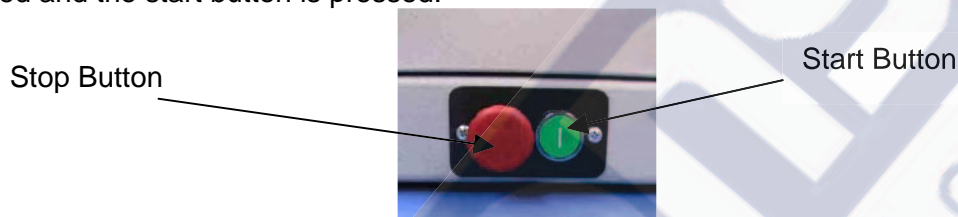

Fig 1: Push Button Controls
- A No-Volt Overload Push Button Starter (fig. 1), which will stop the machine if the motor becomes overloaded or if there is a power failure. The machine will NOT restart until the Stop Button is released and the start button is pressed.
- To start the machine, depress the green **Start** button (fig 1) on the right-hand side of the machine. If you have a machine mounted on a dust extractor, this will automatically start at the same time.